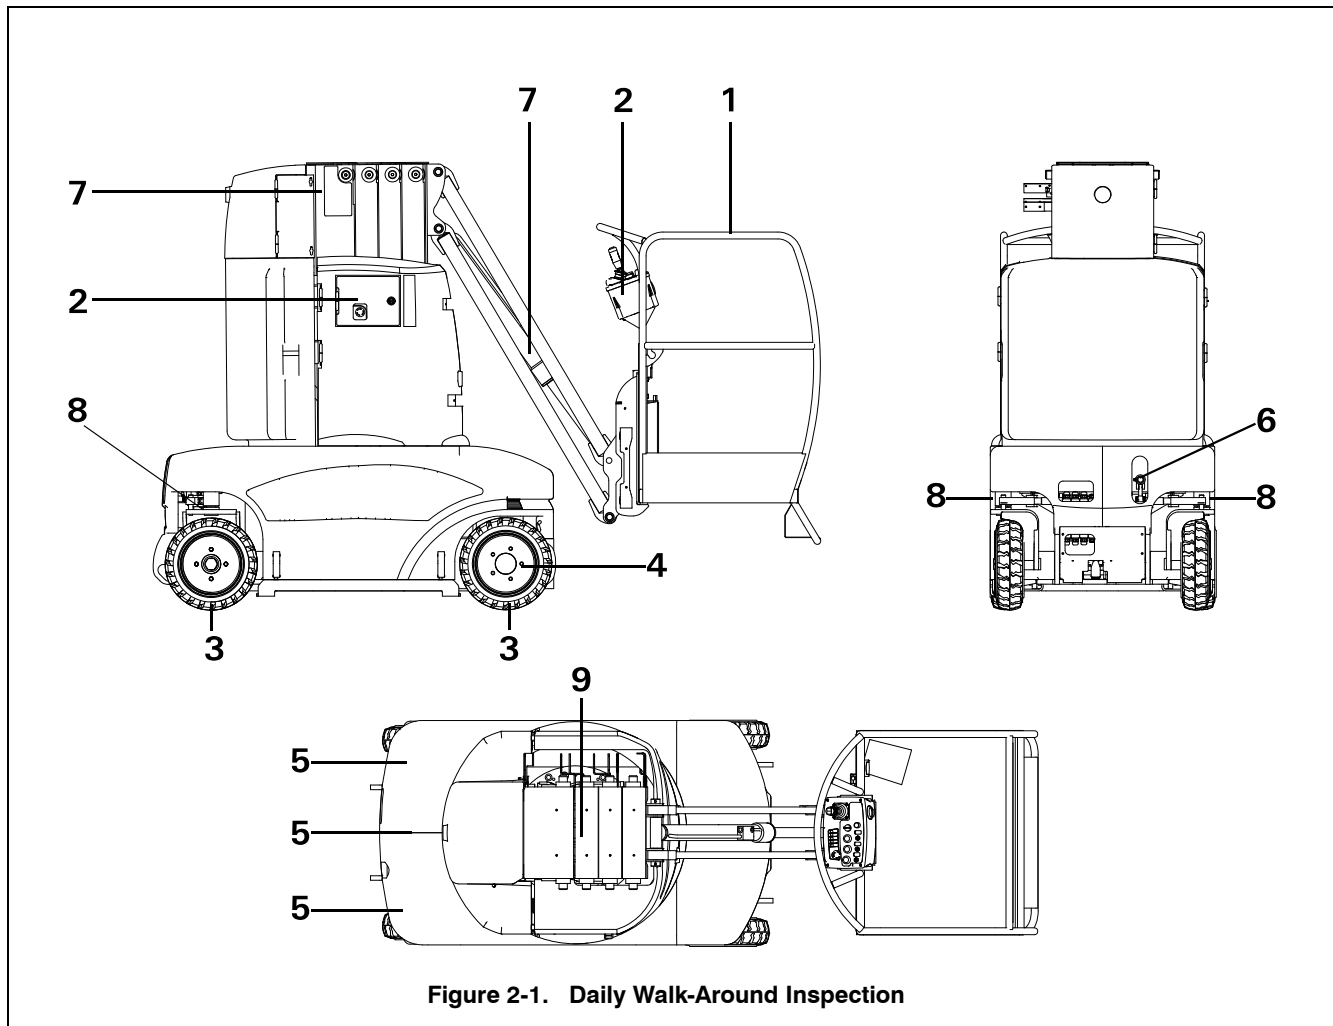

Figure 2-1. Daily Walk-Around Inspection
5. **“Walk-Around” Inspection** – Refer to Figure 2-1.